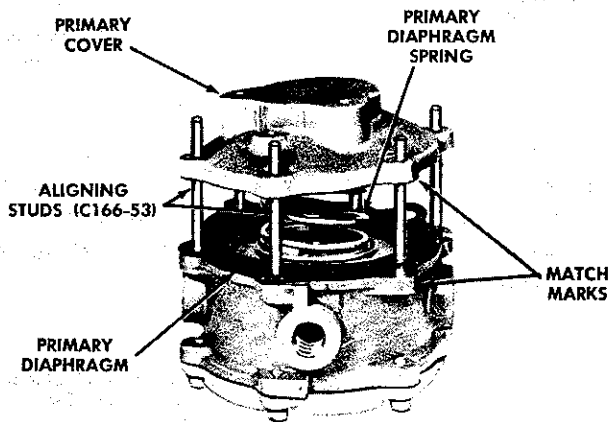

FIGURE 22
15. Insert six aligning studs (C166-53) in the six assembly screw holes in body casting finger tight, then install primary diaphragm, plates up. Figure 22. *Note: Disregard 7th hole in diaphragm.*
16. Place primary diaphragm spring on small diaphragm plate. Figure 22.
17. Align match marks on primary diaphragm cover and regulator body. Figure 22.